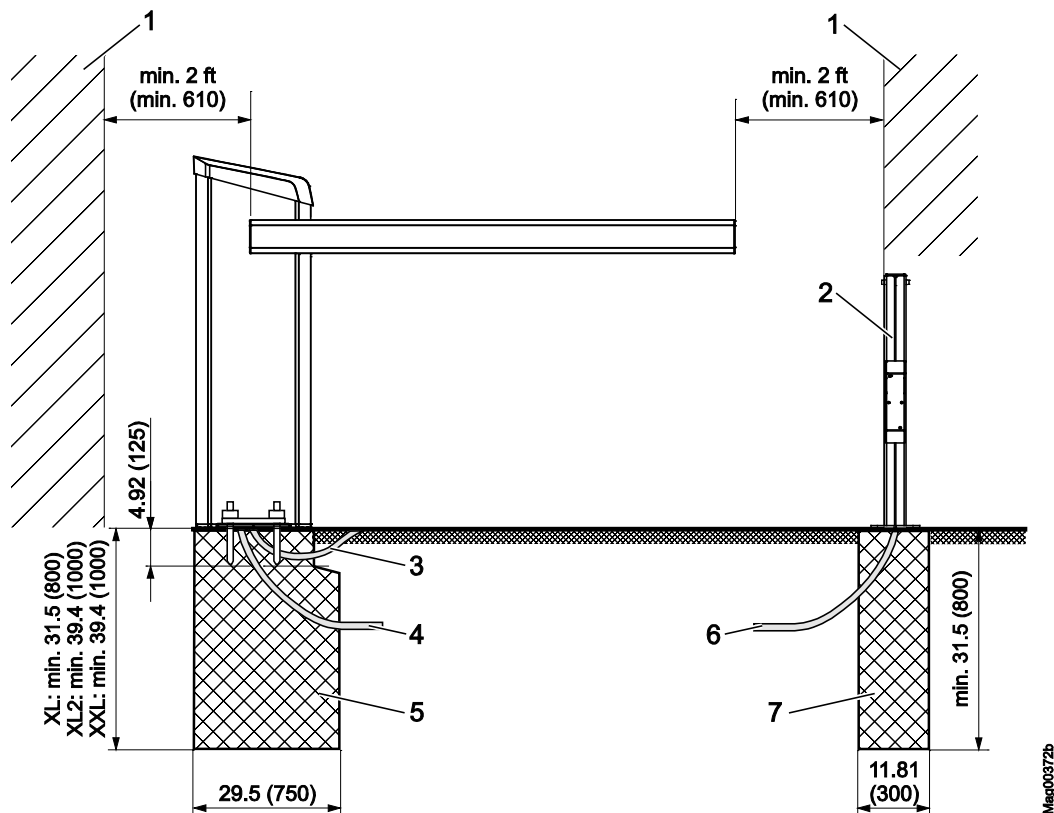
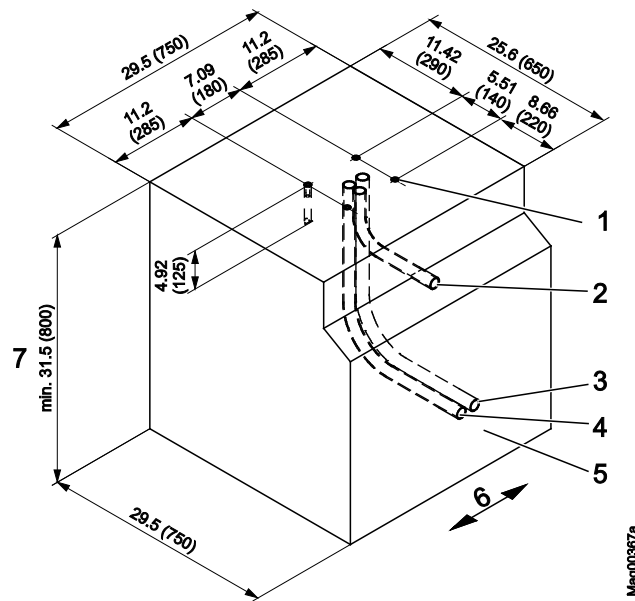

Fig. 13: Assembly barrier system
Fig. 14: Foundation plan – Access XL
<p>Danger of crushing and shearing if the safety distance between the barrier arm and other objects is too low!</p> <p>A closing or opening barrier arm can cause severe injuries from crushing if the safety distance to other objects is too low!</p> <ul style="list-style-type: none"> – Keep a safety distance of at least 2 ft (610 mm) between the barrier arm and other objects, such as walls, masonry or houses. → See page 26, chapter 2.7. – Install the barrier system only when all exposed pinch points are eliminated or guarded. – Assemble and install barrier system according to Fig. 13. – Controls intended for user activation must be located at least 6 ft (1.83 m) away from any moving part of the barrier and where the user is prevented from reaching over, under, around or through the barrier to operate the controls. Outdoor or easily accessible controls shall have a security feature to prevent unauthorized use.
- Keep a safety distance of at least 2 ft (610 mm) between the barrier arm and other objects, such as walls, masonry or houses. → See page 50, Fig. 13.
→ See page 50, Fig. 13 to page 52, Fig. 14.
→ See page 52, Fig. 14.
1. Dig foundation hole pursuant to Fig. 13 and Fig. 14.
3. Place empty conduits pursuant to Fig. 14 in the foundation hole.
5. Fill concrete foundation pursuant to Fig. 14.
→ See page 50, Fig. 13 to page 55, Fig. 16.